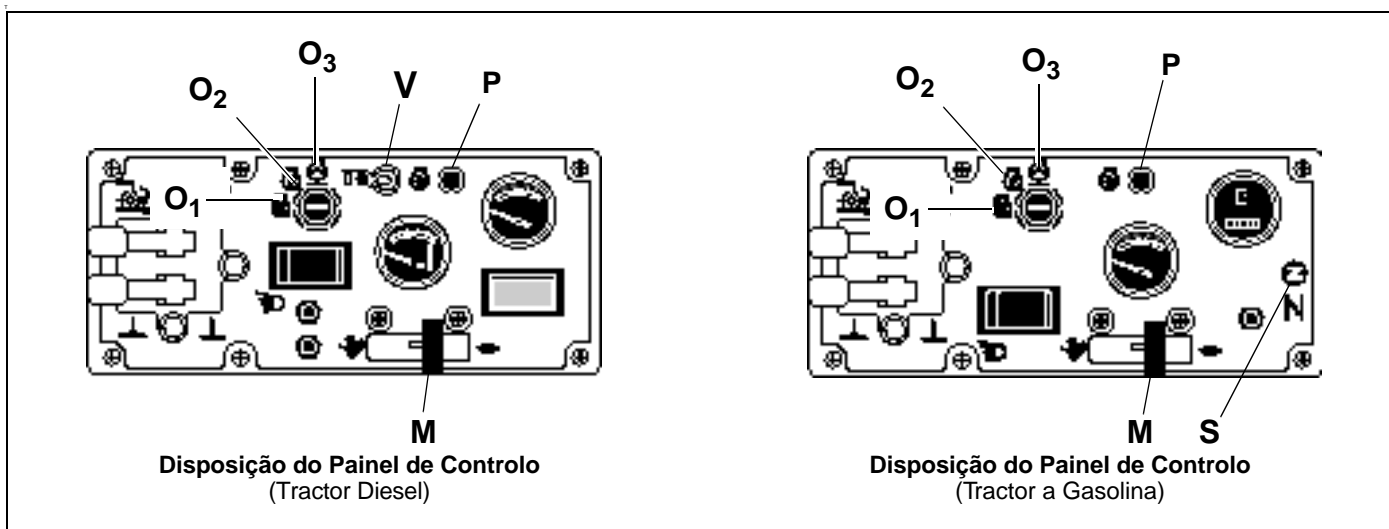

Figura 4A
4.4 ARRANQUE DO MOTOR (Figura 4A)